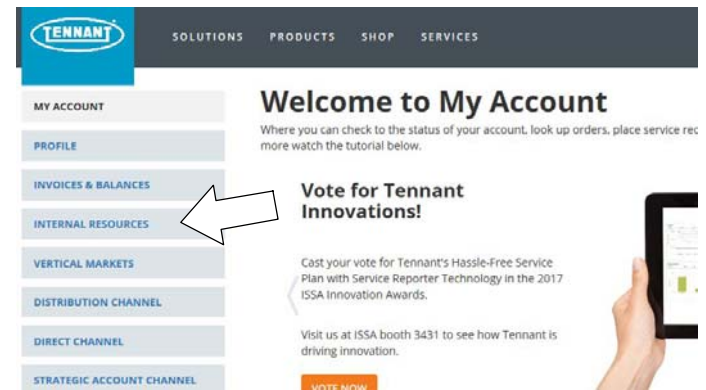

Fig. 23
2. Once logged in to the “My Account” website, click on the **“INTERNAL RESOURCES”** link as shown below (Figure 23).